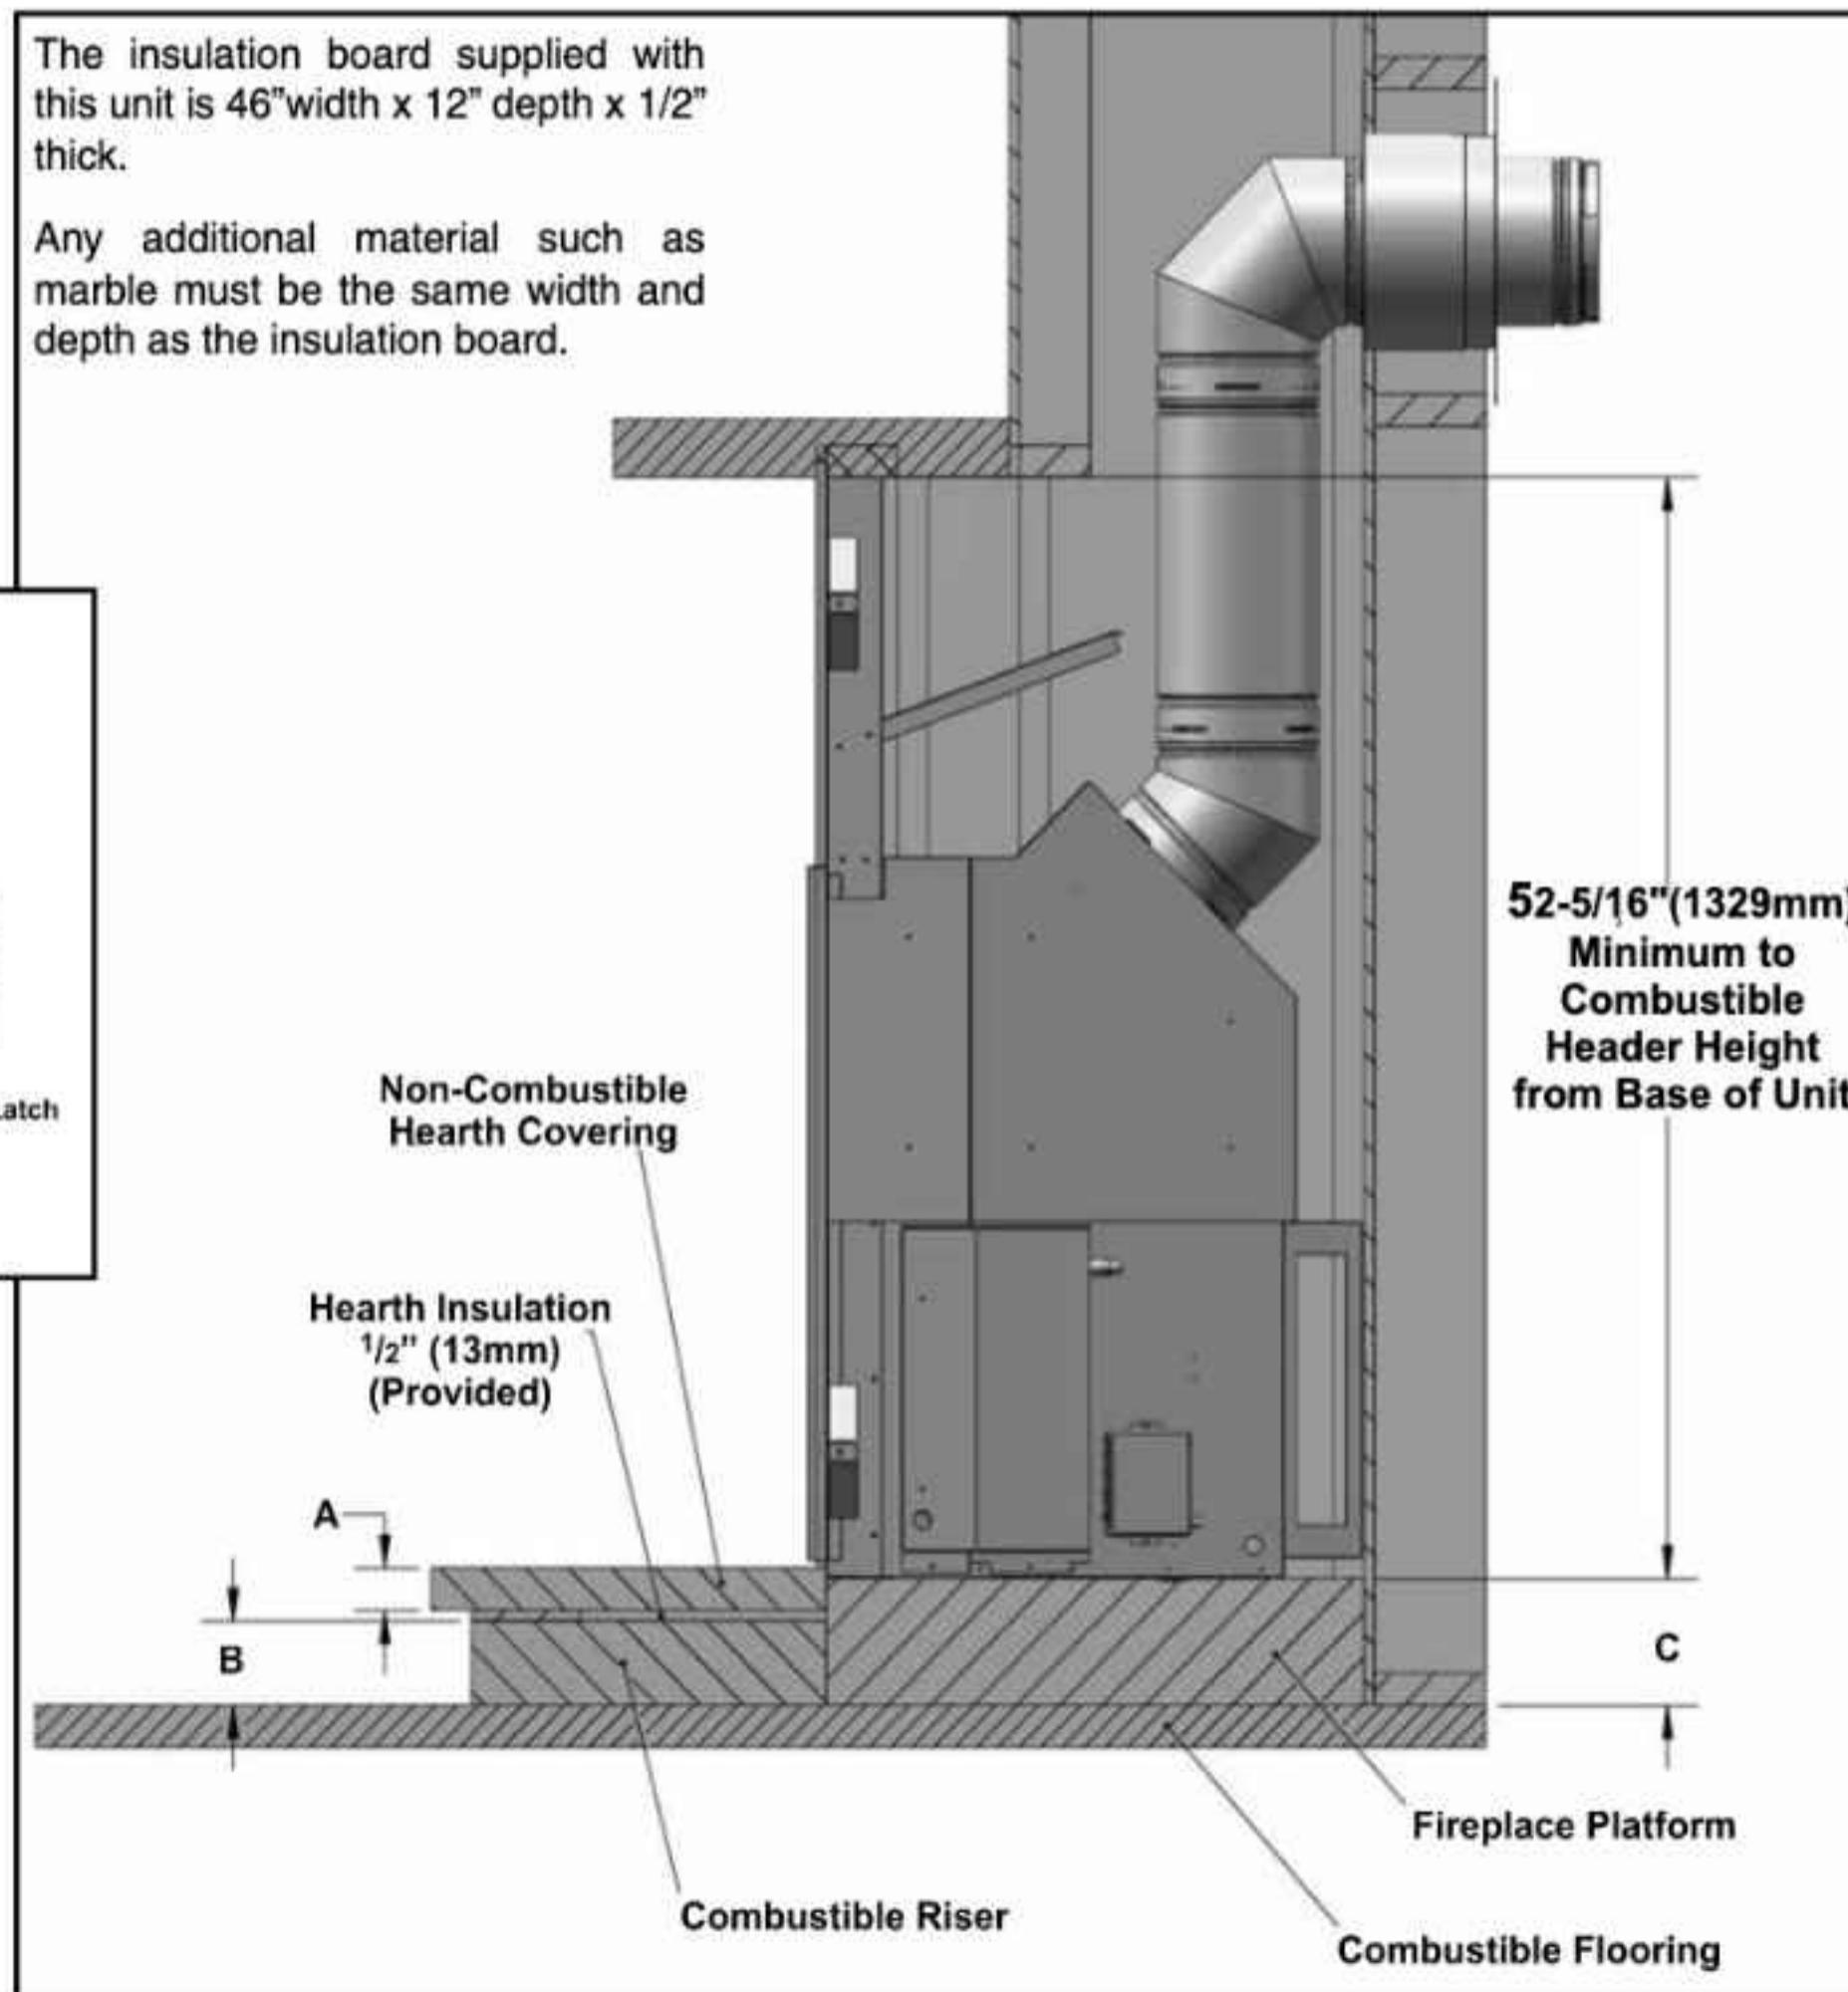

Figure 14. Typical Framing for a Raised Hearth - Detailed.
Figure 14 shows a raised hearth made of a wooden construction hearth riser (B), covered with the insulation board provided and then covered with non-combustible slate (A). The thickness of the riser (B) is 4" (102mm). The thickness of the slate (A) is 2" (52mm). A+B=C which is 6" (152mm). In summary, the fireplace must be raised by the same thickness of any material added in front of the fireplace.